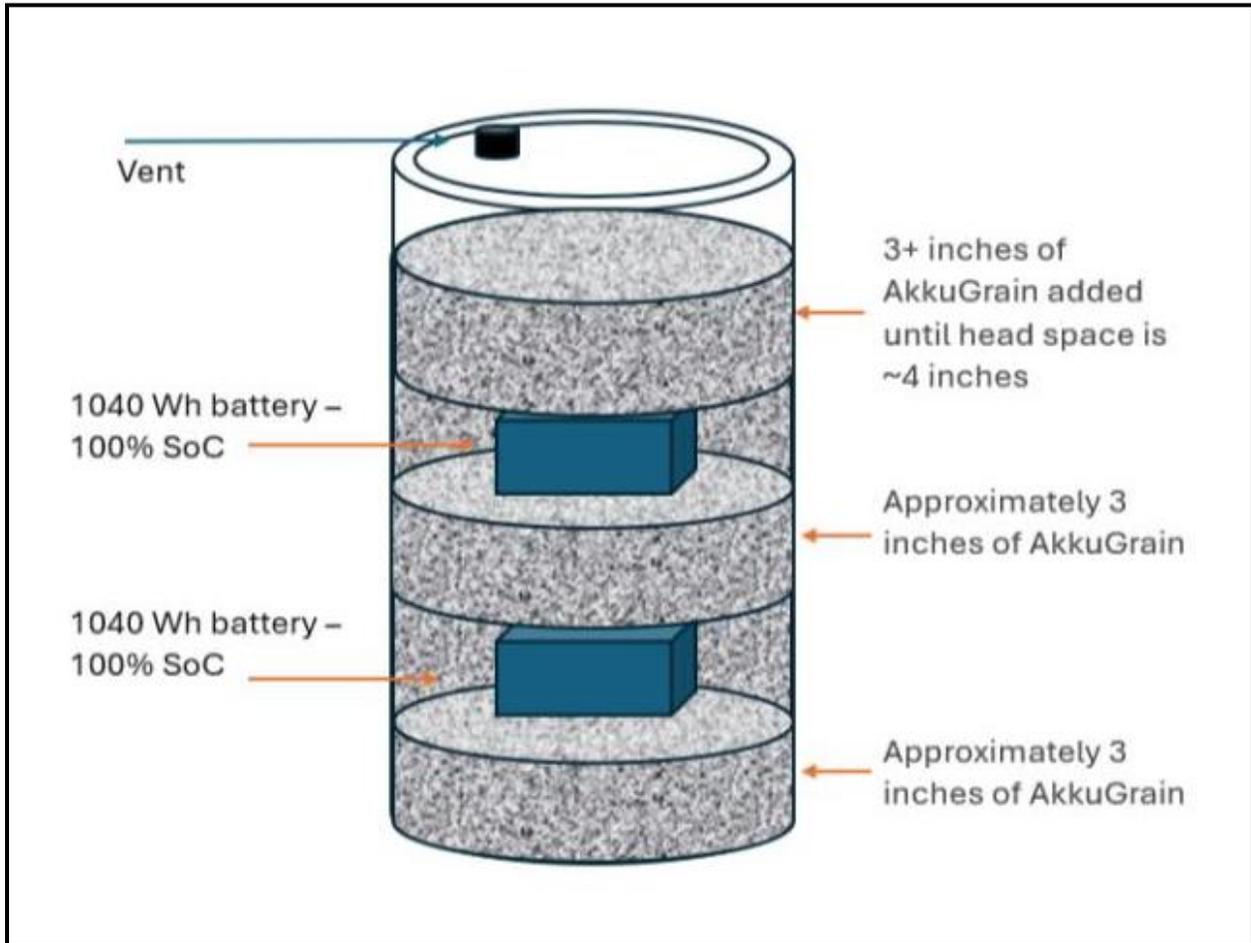

Figure 3
- Figure 3 shows the placement of the first pack. AkkuGrain was filled to the level of the first pack. Following this, approximately 3 inches of AkkuGrain was filled between each of the other two packs.